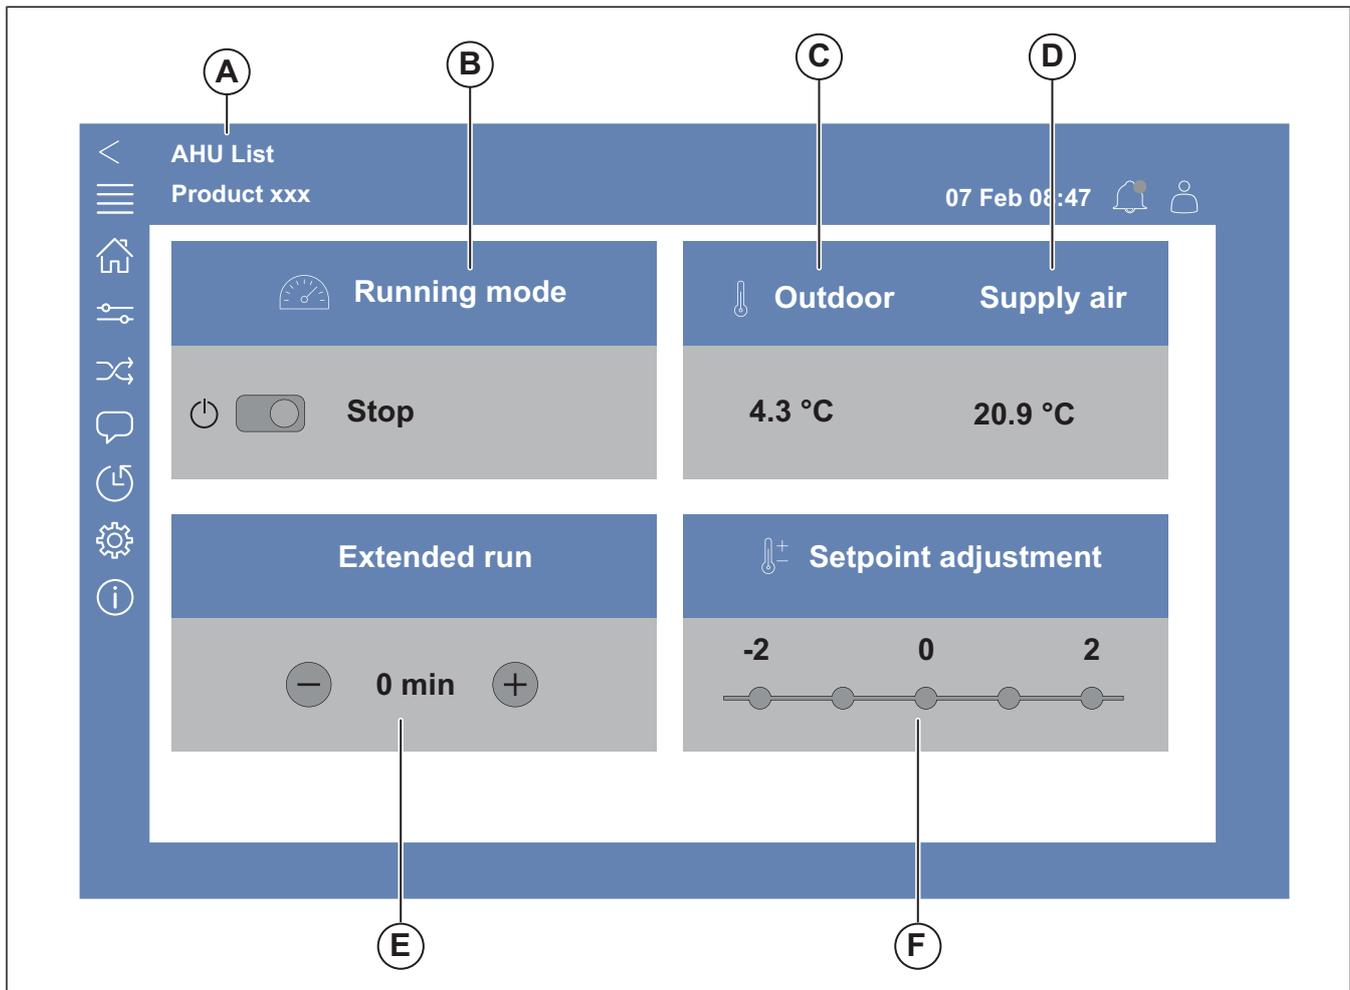

Fig. 1 Homepage
- Press AHU list (A), refer to Fig. 1 Homepage. Available products are shown on the screen.